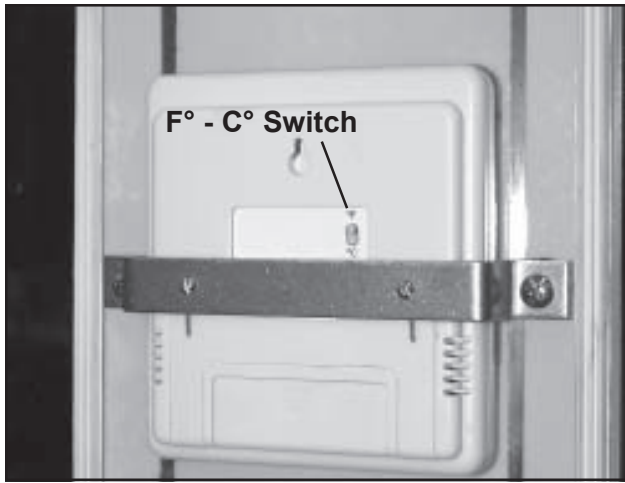

Figure 67. Rear of the Digital Readout
2. On the rear of the filter/fans compartment panel, locate the digital readout (Figure 67).
3. On the rear of the digital readout, click the switch labeled **F° - C°** (Figure 67) to the desired setting.